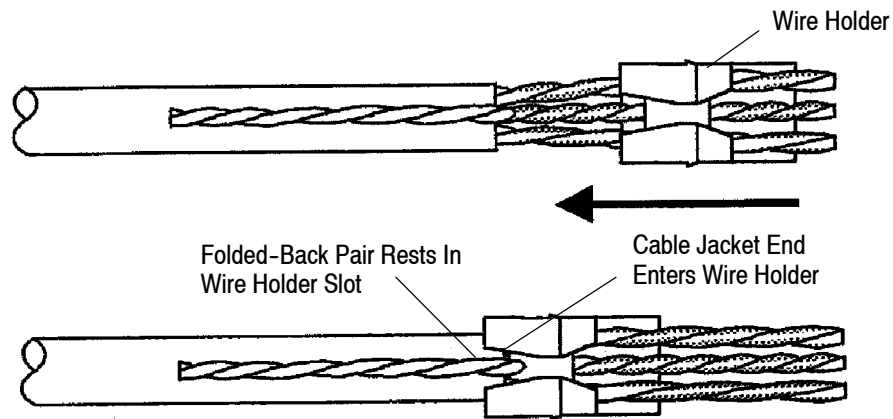

Figure 5
2. Insert the three side-by-side pairs through the wire holder as shown in Figure 5. Slide the wire holder back against the end of the cable jacket. The end of the cable jacket should extend into the end of the wire holder and the folded-back pair should rest in the slot on top of the wire holder.